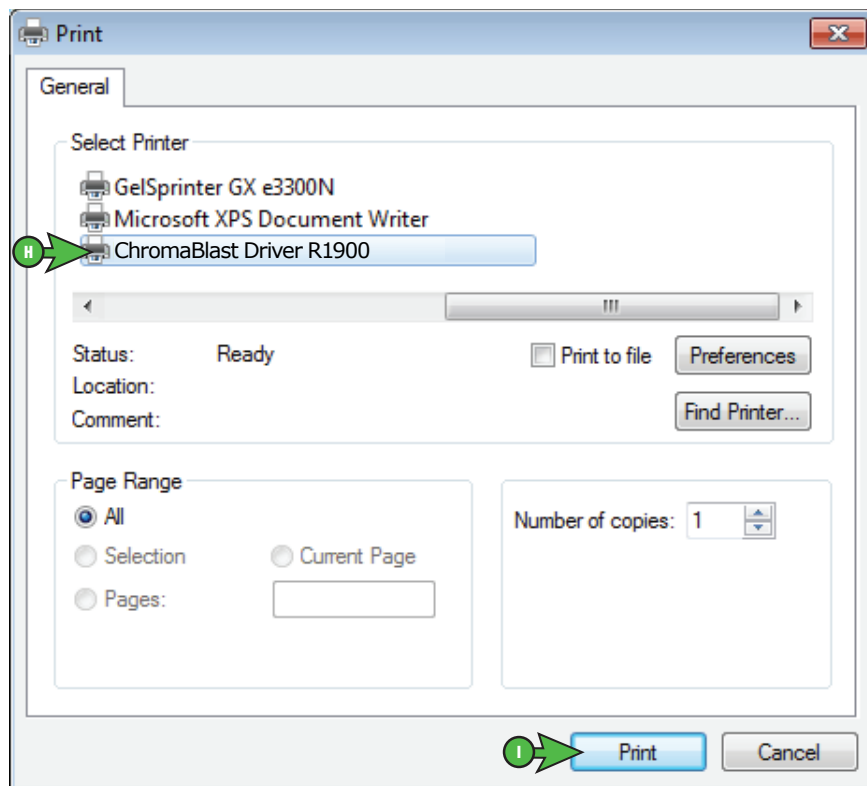

FIGURE 8
- G. Once your settings match, click **Setup**. This will open the Print window (see *FIGURE 8*)